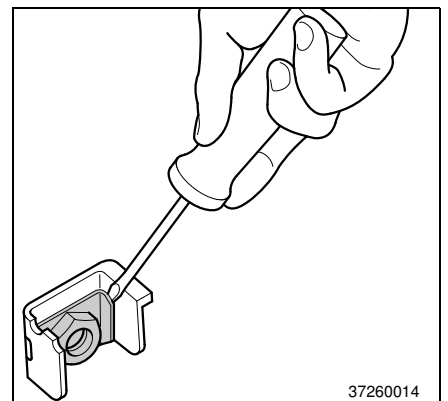

Fig. 27
- On a left hand end panel you must also remove the clamping nut. To do so insert a flat object (e. g. flat screw driver) behind the longer side of the clamping nut and press it out (Fig. 27).